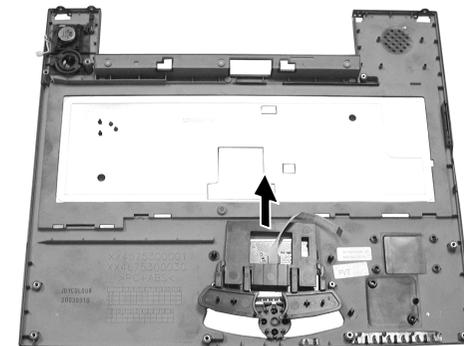

Figure 2-30 Unscrew screws and hex nuts
6. Remove the click holder and touch pad panel. (Figure 2-30)